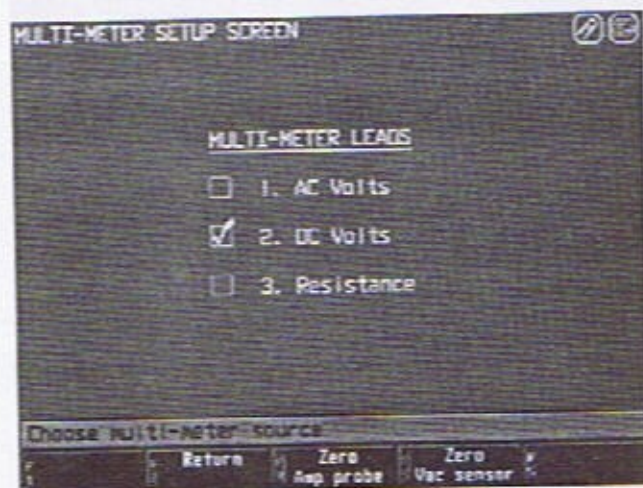

Figure 3-46
- [F5] – to display the *Multi-Meter Setup* screen (see Figure 3-46).
Type the number of the leads configuration you wish to use. A check will appear in the box next to the list (see Figure 3-46).